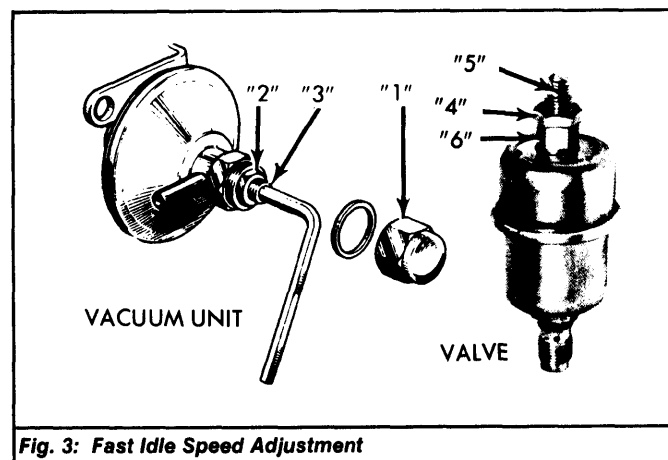

Fig. 3: Fast Idle Speed Adjustment
2) Check for .004" (1 mm) play between throttle lever and screw. If there is no play present, remove domed nut (No. 1) and save gasket. Loosen lock nut (No. 2). See Fig. 3.